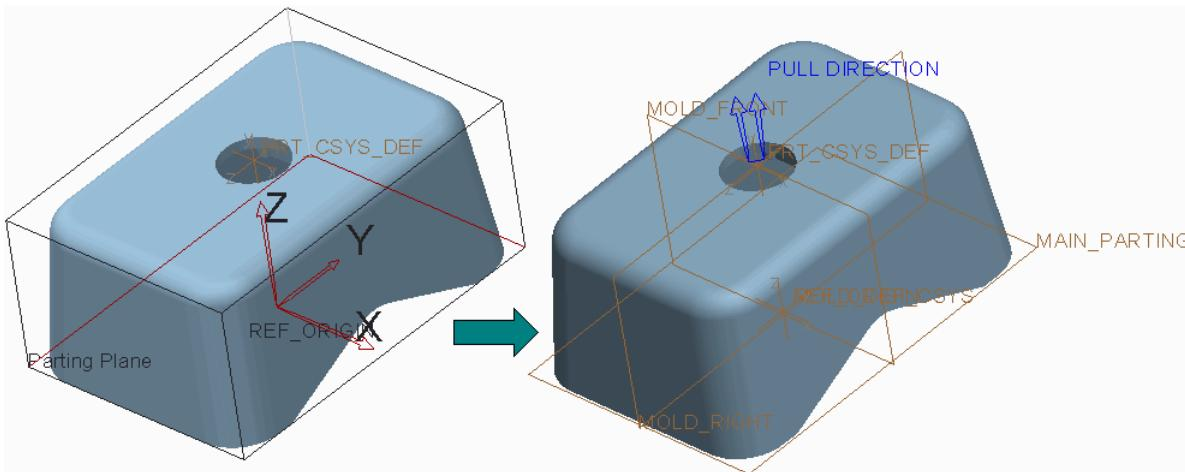

Figure 2 – Using Dynamic Orientation
- Dynamic – A separate window opens that contains the reference model. However, a new coordinate system called REF_ORIGIN is created in the reference model, and you can dynamically reorient this coordinate system so that it will line up properly with the mold layout coordinate system. In the separate window that contains the reference model, the X, Y, and Z-directions of the REF_ORIGIN coordinate system are displayed, and the positive Z-direction is the same as the PULL DIRECTION in the mold model. Also, the Parting Plane displays to show you a surface perpendicular to the pull direction. Figure 2 shows the REF_ORIGIN coordinate system orientation and Parting Plane and the resulting orientation in the mold model.